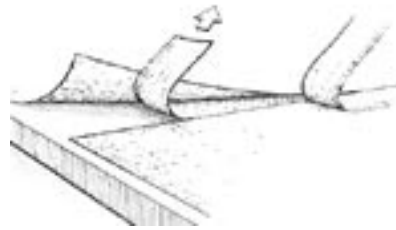

Figure 9-19 Remove the top-most trimming. Then lift the opposite cut edge to remove the overlapped trimming.
c.) Remove the top-most trimming and then lift the opposite cut edge to remove the overlapped trimming. (Figure 9-19).